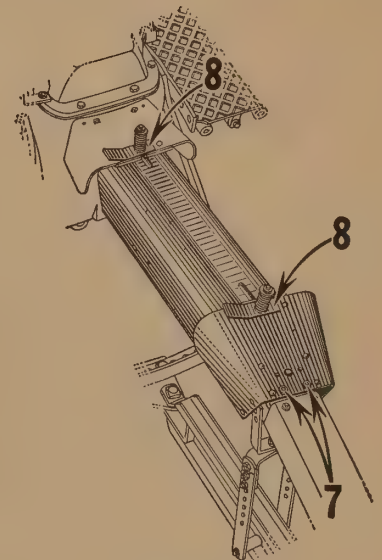

Fig. 33
6. (Fig. 33.) Slide front splined universal joint onto take-off shaft on tractor and secure in place with clamp bolt and cotter.
7. (Fig. 33.) Bolt power shaft shield to rear set of holes in power shaft front bearing housing.
8. (Fig. 33.) Attach universal joint and pipe connection shield to take-off shaft shield on tractor and to shield on power shaft front bearing as shown.